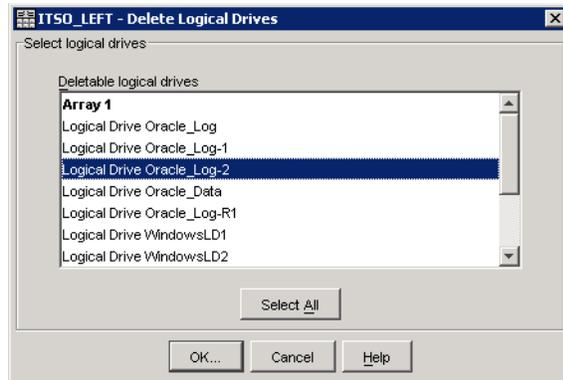

Figure 7-36 Delete FlashCopy logical drive dialog
3. The Delete FlashCopy logical drive window opens, as shown in Figure 7-36. Highlight the FlashCopy logical drives that you wish to delete and click **OK**. Be careful not to delete the wrong logical drive.